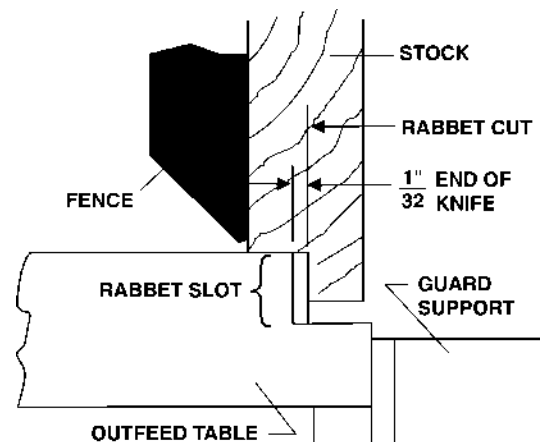

FIGURE 16
5. To position the knife for rabbeting cuts, a 1/32 inch shop scale should be placed flat on the end of the cutterhead or the rabbet slot, whichever extends the farthest. Slide the knife out until it is flush with the end of the shop scale. Set the knife locking gib 1/32 inch in from the end of the knife. See Figure 16.